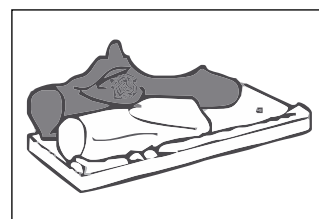

FIG 19
b) Place log #2 onto the 2 left back pins. Refer **FIG 19**.